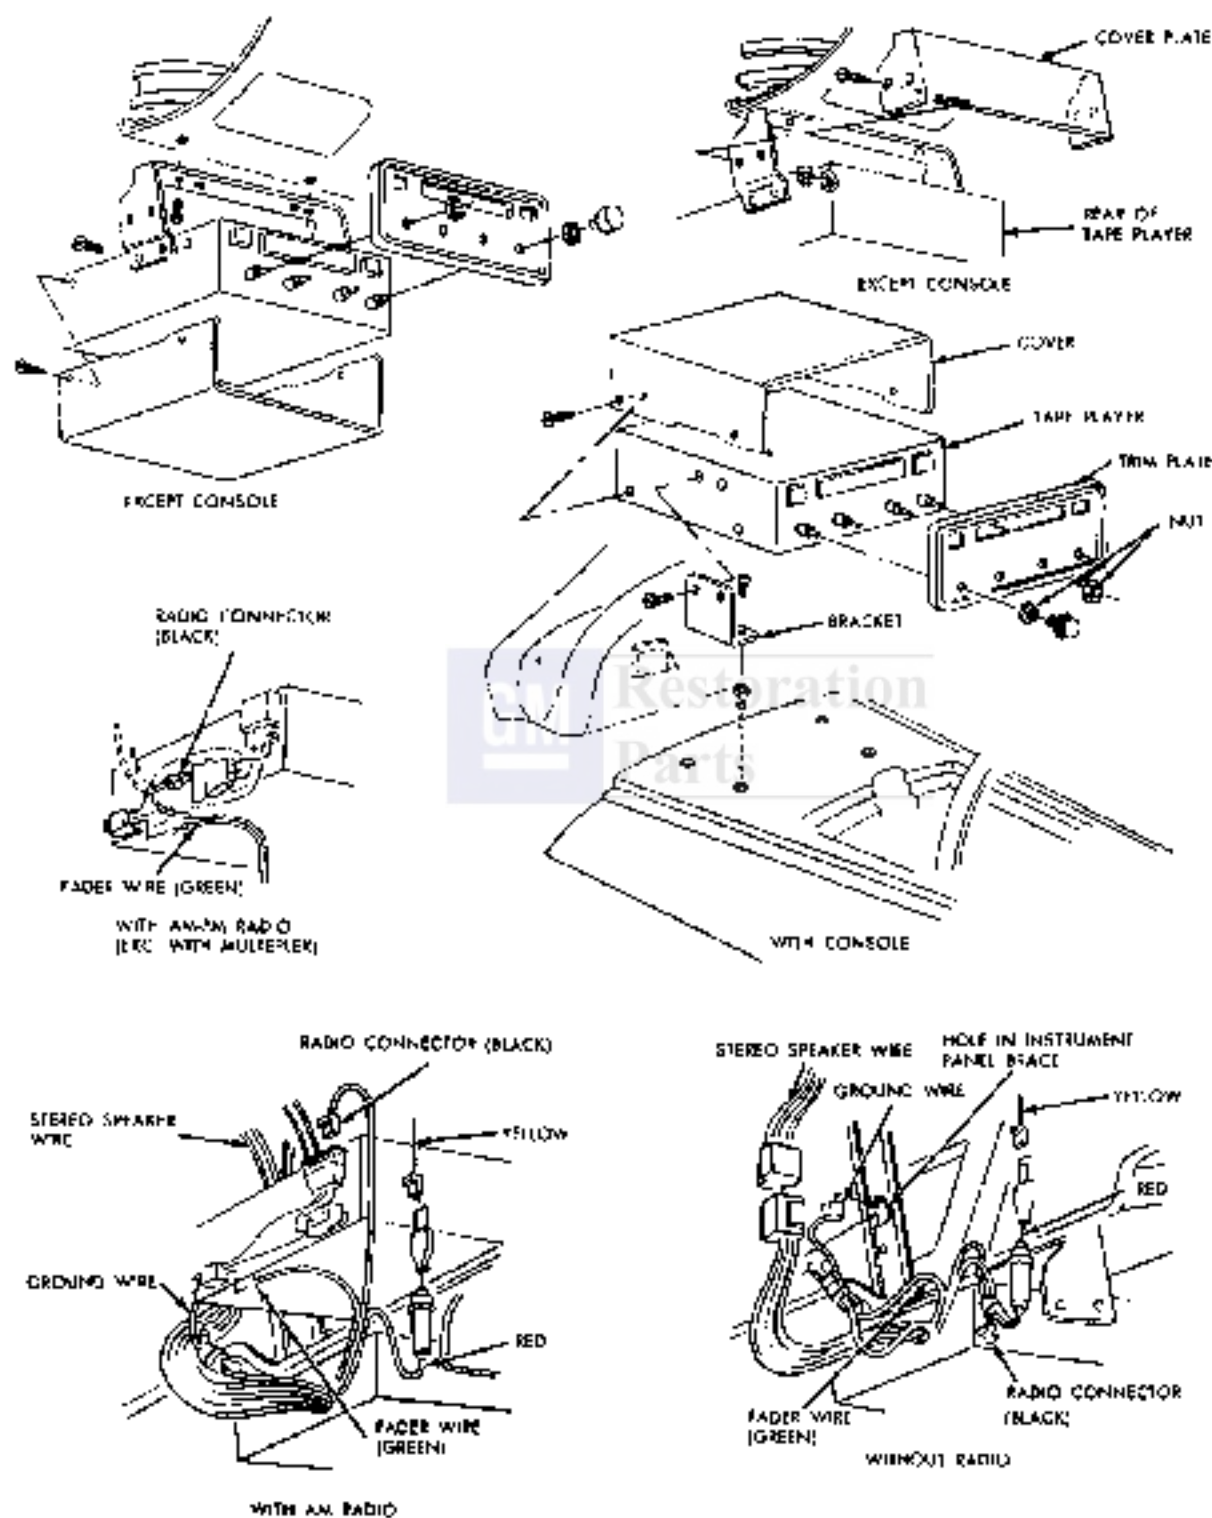

Fig. 15-53 Stereo Tape Player—Fitted
REMOVE AND REPLACE—FIREBIRD (Fig. 15-53)
6. Remove knobs and nuts from trim plate (Fig. 15-53) and remove trim plate.